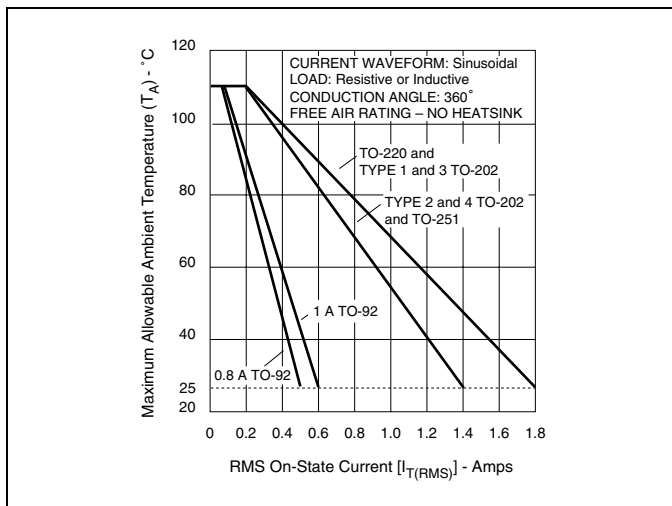
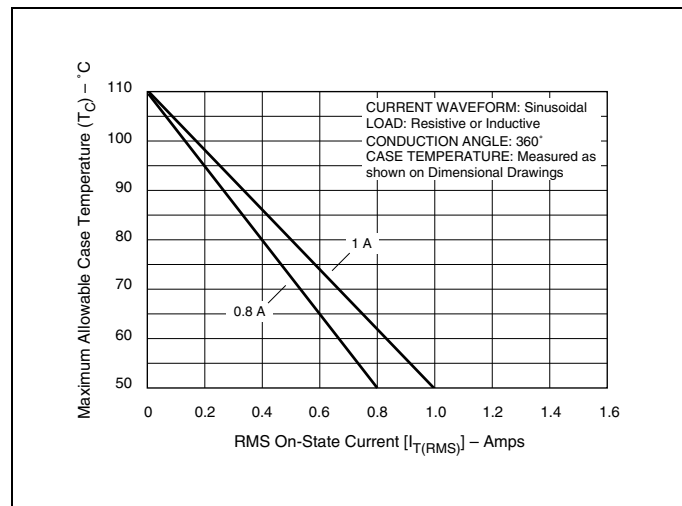
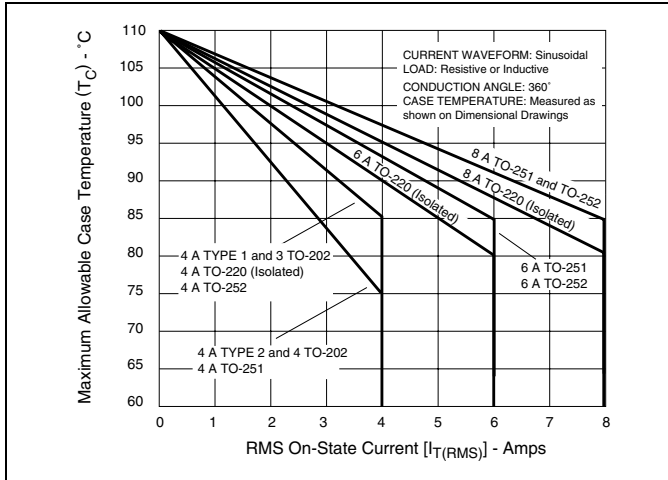

Figure E1.1 Maximum Allowable Ambient Temperature versus On-state Current
Figure E1.2 Maximum Allowable Case Temperature versus On-state Current (0.8 A and 1 A)
Figure E1.3 Maximum Allowable Case Temperature versus On-state Current (4 A, 6 A, and 8 A)
- (10) See Figure E1.2 and Figure E1.3 for maximum allowable case temperature at maximum rated current.
- (11) See Figure E1.1, Figure E1.2, and Figure E1.3 for  $T_A$  or  $T_C$  versus  $I_{T(RMS)}$ .
- (12) See package outlines for lead form configurations. When ordering special lead forming, add type number as suffix to part number.
- (13) Pulse width  $\leq 10\text{ }\mu\text{s}$
- (14)  $T_C$  or  $T_L = T_J$  for test conditions in off state
- (15) Minimum non-trigger  $V_{GT}$  at  $110\text{ }^\circ\text{C}$  is 0.2 V.